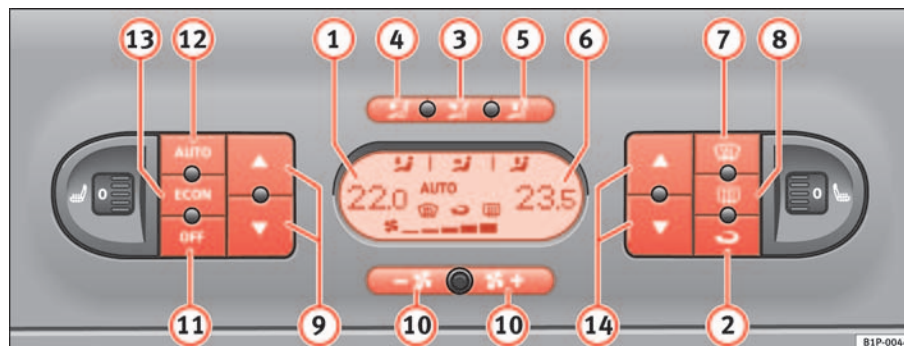

Fig. 111 On the dash panel: 2C Climatronic controls
- To enter manual mode, press one of the buttons ⇒ fig. 111 (3) to
(5), **ECON** or press the airflow control (10). The symbol **AUTO** will disappear from the display. ▶
- Press the button  ⇒ page 147, fig. 111  to switch air recirculation mode on or off. It is switched on if the following symbol appears in the display .